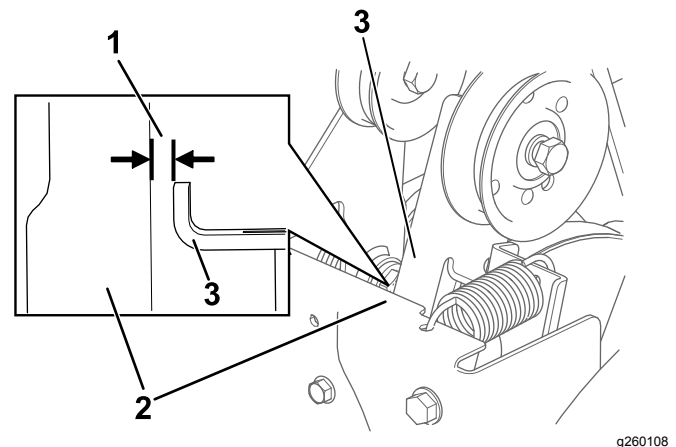

Figure 26
3. With the auger/impeller lever disengaged, ensure that the gap between the auger clutch arm and the frame of the machine is 1.5 mm (1/16 inch) as shown in Figure 26.